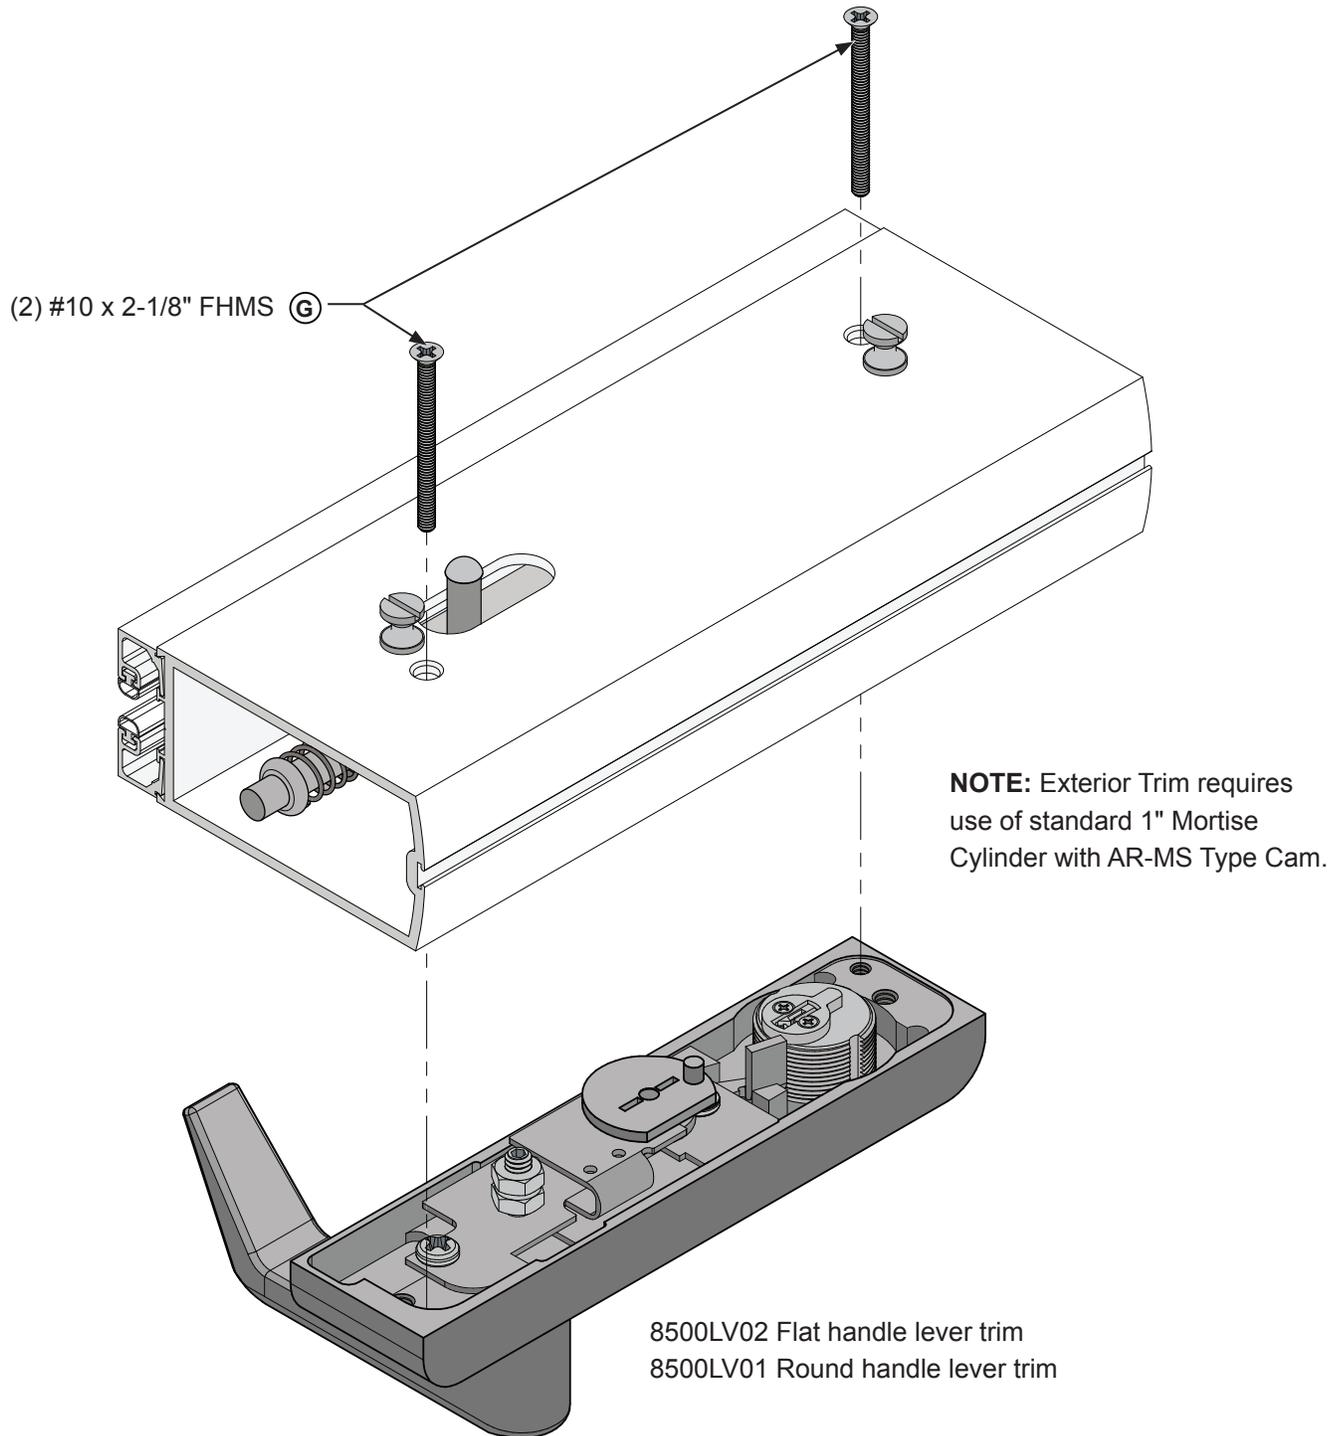

FIG. 12
1. Attach the exterior trim to the active stile with **Ⓒ** (2) #10 x 2-1/8" FHMS. (**Fig.12**)